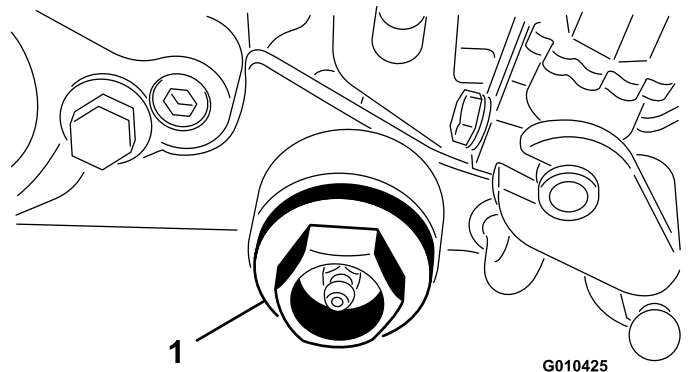

Figure 11
14. Thread the cap plug into the groomer housing (Figure 11).